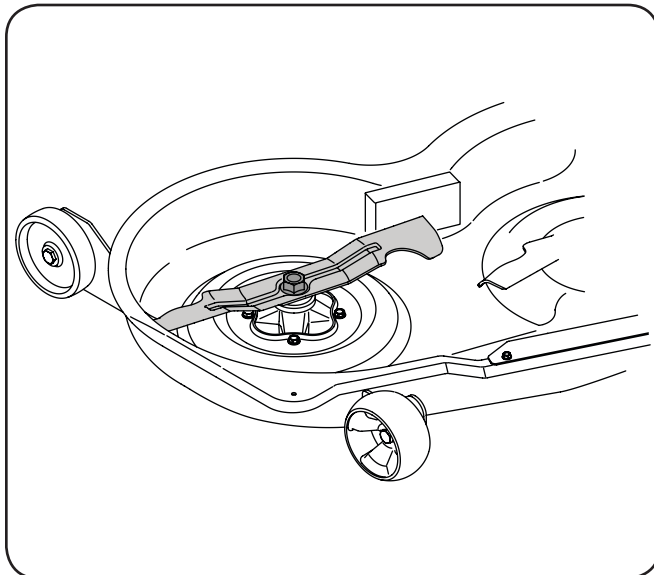

Figure 7-3
2. Remove the hex flange nut that secures the blade to the spindle assembly. See Figure 7-3.